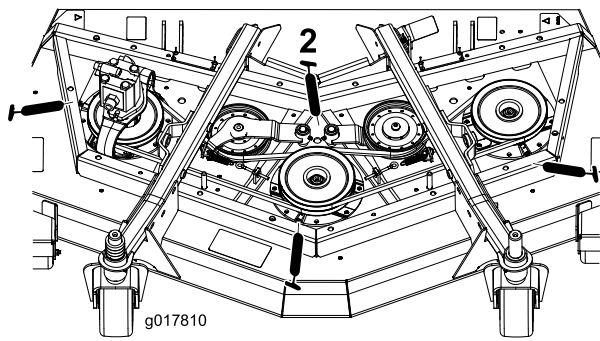

Figure 39
- Spindle shaft bearings (3) (located under the pulley) (Figure 39)
- Idler arm pivot bushings (2) (Figure 39)